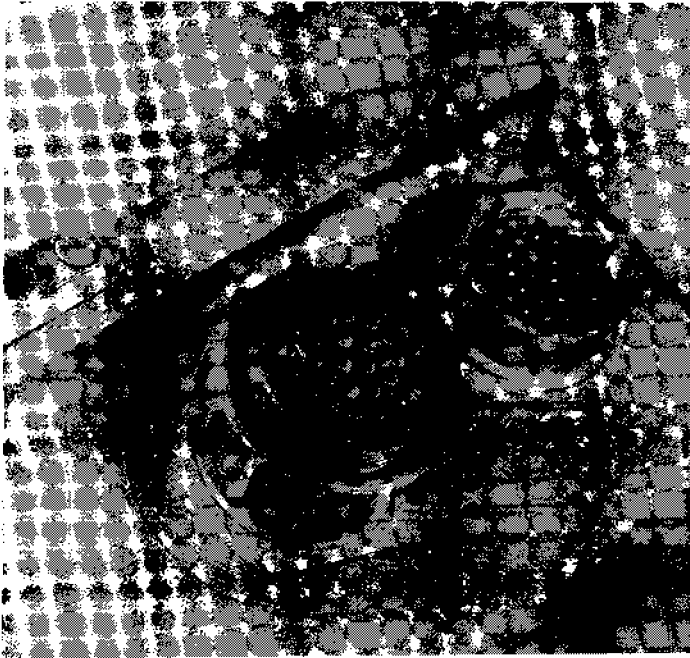

FIGURE 9
- (3) Connect a dummy socket, in which pins R and S are shorted, to the inner connector on the outside of the logger (Figure 9).